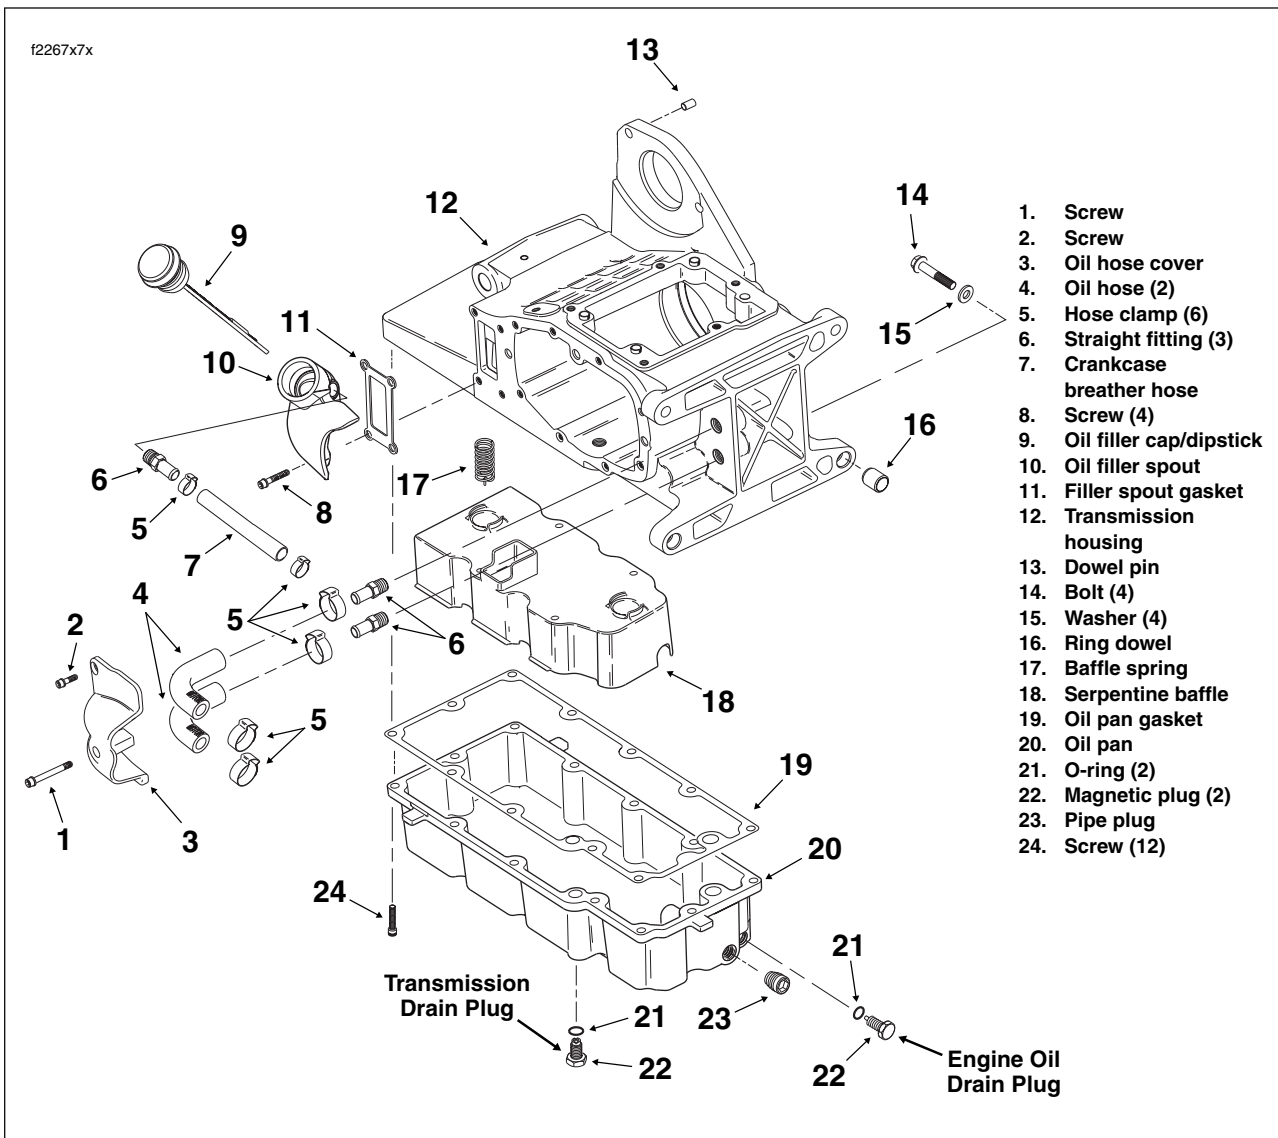

Figure 7-41. Transmission Case and Oil Pan
1. See Figure 7-41. Remove both the engine oil and transmission lubricant drain plugs from the oil pan. Drain the fluids into suitable containers.
- Remove two allen head socket screws to release oil hose cover. See Figure 7-41.
3. Slide **new** clamps onto free ends of oil supply and return hoses. See Figure 7-41. Install hoses onto transmission fittings. Crimp clamps using the Hose Clamp Pliers (HD-41137).